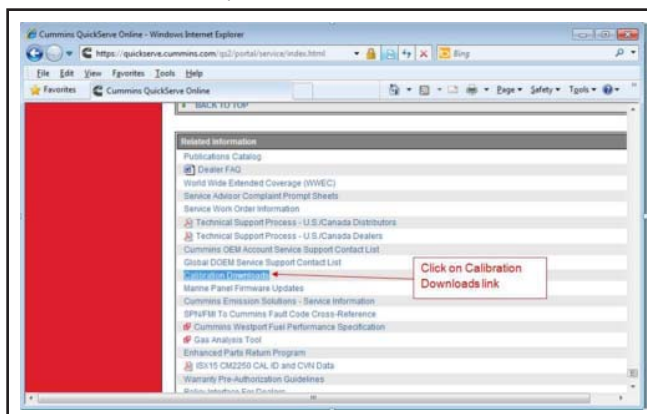

Figure 3 - Calibration Download Link
- 1.3. After you click on related information tab, click on calibration download link. See Figure 3.